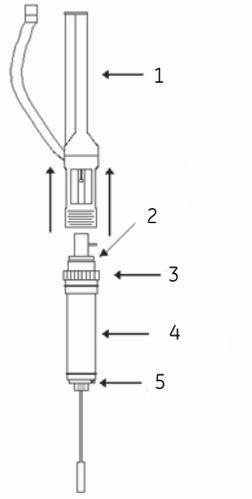

Figure 5-1. Pipette assembly.
- 1 The first step in removing the titration syringe is to decouple the syringe holder from the pipette, by turning the locking collar until it completely unscrews and gently pulling the holder down until the two pieces come apart (see *Figure 5-1*).
Table 5-1. Part in *Figure 5-1*.